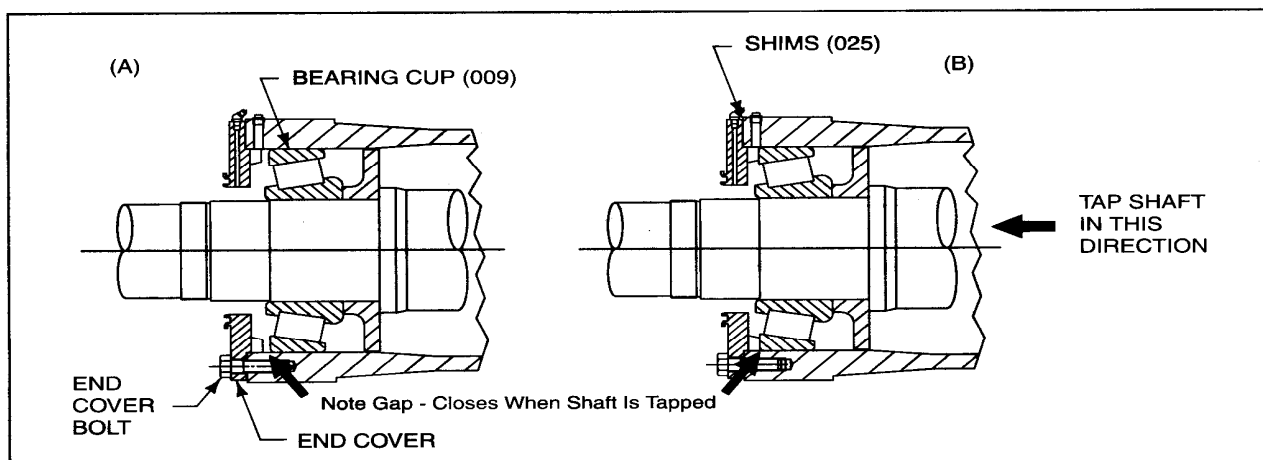

Figure 2-5 • Adjustment of Bearing Cup
- Place END COVER (024) into housing and insert END COVER SCREWS (027). Do not use shims at this stage; they will be used later as shown in Figure 2-5.
1. Press or gently tap the shaft at threaded (impeller) end until bearing cup at opposite end has moved back to the loosely fitted end cover (see Figure 2-5). Be careful not to damage thread.
Having moved the drive end bearing cup back to the end cover as shown in *Figure 2-5(B)* and fully tightened all screws, it is now necessary to measure the actual end play in the bearing assembly.
If shims have to be added, follow procedure for fitting shims and moving bearing cup back to end cover as shown in *Figure 2-5(B)*. After readjusting endplay with shims, measure the actual play again with the dial indicator.